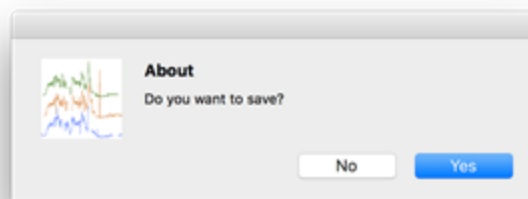

Figure 3-51. Save confirmation prompt.
- Ø The prompt in Fig. 3-51 appears.